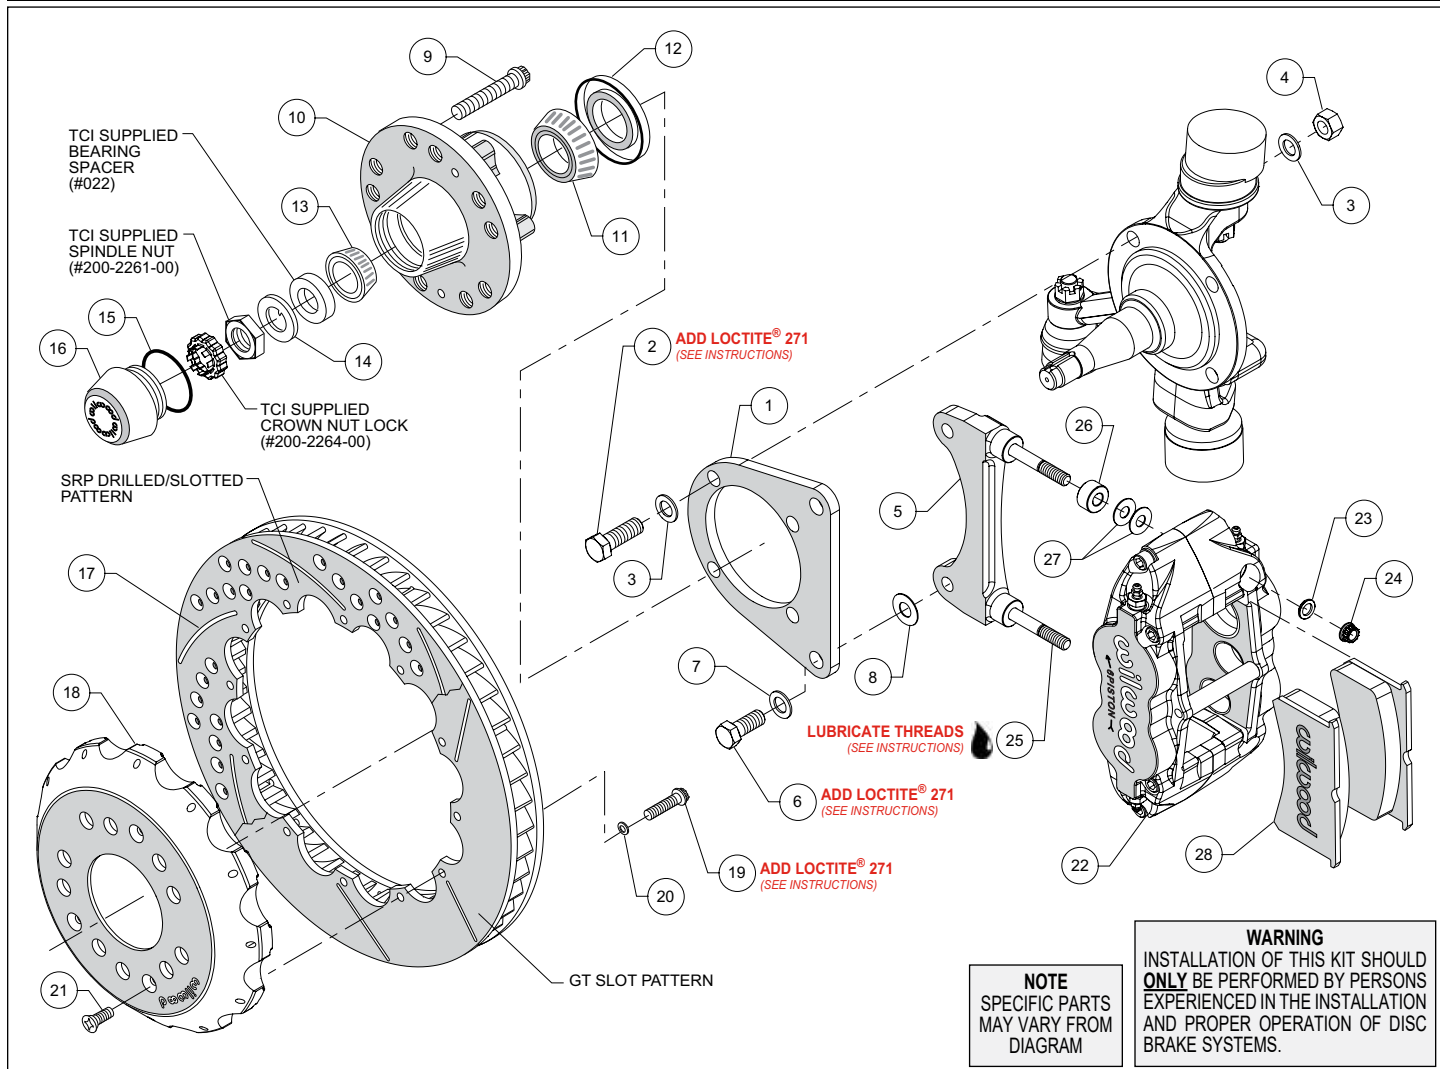
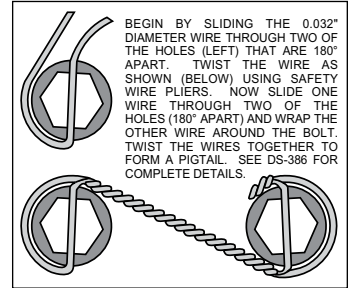

Figure 1. Typical Installation Configuration
Figure 3. Safety Wire Diagram
NOTE: Numbers in parenthesis refer to the parts list and Figure 1 on the preceding pages.
- Orient the flat bracket (1) as shown in Figure 1, and Photo 1, and install using bolts (2), washers (3), and nuts (4). **NOTE:** The two lower mount bolts thread directly into the steering arm. Temporarily tighten the mounting bolts. **NOTE:** The bracket must fit squarely against the spindle face. Inspect for interference from casting irregularities, machining ridges, burrs, etc. After the bracket alignment has been checked, remove the bracket mounting bolts (or nuts) one at a time and apply red *Loctite*® 271 to the threads. Torque bolts to 77 ft-lbs.
- The radial mount caliper bracket (5) should initially be installed with clean, dry threads on the mounting bolts. Orient the bracket as shown in Figure 1, and Photo 2, and install using bolts (6), and washers (7). Initially place one .029" thick shim (8) on each bolt between the flat bracket (1) and radial mount caliper bracket (5), Figure 1. Temporarily tighten the mounting bolts. Later, after the caliper alignment has been checked, the mount bolts will be secured using red *Loctite*® 271.
- Install wheel studs (9) into the hub (10), Photo 3. Torque to 77 ft-lb. **NOTE:** There are two five lug patterns in the hub (5 x 4.50 and 5 x 4.75). Ensure the correct hub stud pattern is being used to fit the wheel application.
- Pack the large inner bearing cone (11) with high temperature disc brake bearing grease (available from your local auto parts store) and install into the backside of the hub (10), Photo 4.
- Install the grease seal (12) by pressing into the backside of the hub (10), flush with the end of the hub, Photo 4.
- Pack the small outer bearing cone (13) with high temperature disc brake bearing grease and install into hub (10), Photo 5. Slide the hub assembly onto the spindle. Install TCI supplied bearing spacer (#022). Secure using spindle washer (14) and TCI supplied spindle nut (#200-2261-00). Bearing adjustment: Tighten the nut while turning the hub. When there is a slight bind on the bearings, they are seated correctly. Back the nut off about 1/6 to 1/4 of a turn, or sufficiently to allow .001" to .007" end play. **WARNING:** Failure to back off adjusting nut could cause bearing to run hot and be damaged, which could cause the wheel to lock or come off. Install TCI supplied crown nut lock (#200-2264-00) and a new cotter pin (not included).
- Orient the rotor (17) and the hat (18) as shown in Figure 1 and Photo 7. Attach rotor to hat using bolts (19) and washers (20). Using an alternating sequence, apply red *Loctite*® 271 to the threads, and torque to 155 **in-lbs**. For an added measure of security, the bolts may be safety wired using standard 0.032 inch diameter stainless steel safety wire as shown in Figure 3. Please refer to Wilwood's data sheet DS-386 (available at www.wilwood.com/Pdf/DataSheets/ds386.pdf) for complete safety wire installation instructions.
- Slide the hat/rotor (17/18) onto the hub (10) taking care to align the small countersunk holes in the hat with the small threaded holes in the hub. **NOTE:** The hat must fit flush against the hub face or excessive rotor run out may result. Install three flat head screws (21) through the small holes in the hat (18), Photo 8, and torque to 85 **in-lb**.
- NOTE:** This kit contains distinct right and left hand calipers that must be mounted in a specific direction, as described below. Lubricate the caliper mounting studs (25) with lightweight oil. Initially place two .035" thick shims (26) on each stud between the caliper and the bracket, as shown in Figure 1 and Photo 9. Mount the caliper (22) onto the bracket (5) using lock nuts (24) and washers (23), Figure 1. Ensure that the caliper is mounted so the largest pistons are at the rotor exit end of the caliper, in relation to the direction of rotor rotation. Temporarily tighten the lock nuts and view the rotor through the top opening of the caliper. The rotor should be centered in the caliper, Photo 10. If not, adjust by adding or subtracting shims (8) between the flat bracket and the radial mount bracket. Always use the same amount of shims on each of the two mounting bolts. Once the caliper alignment is correct, remove the radial mount bracket bolts one at a time, apply red *Loctite*® 271 to the threads, and torque to 77 **ft-lb**.